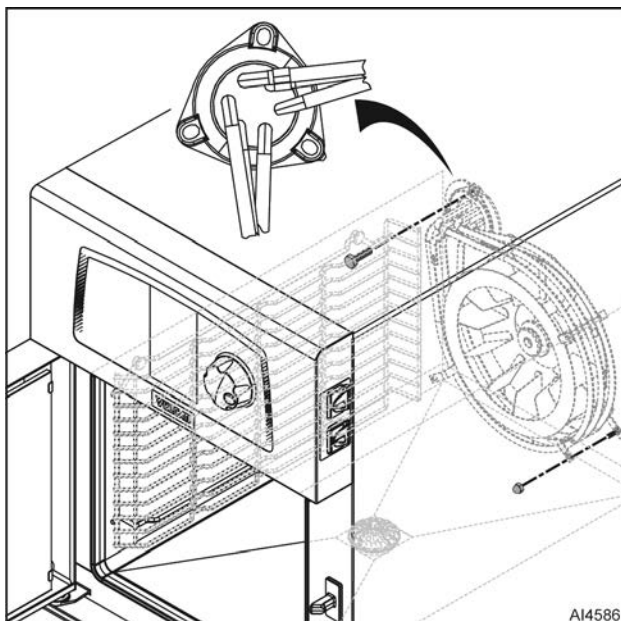

Fig. 32
6. Remove nut (Fig. 32) that secures heating element spacer to oven cavity.